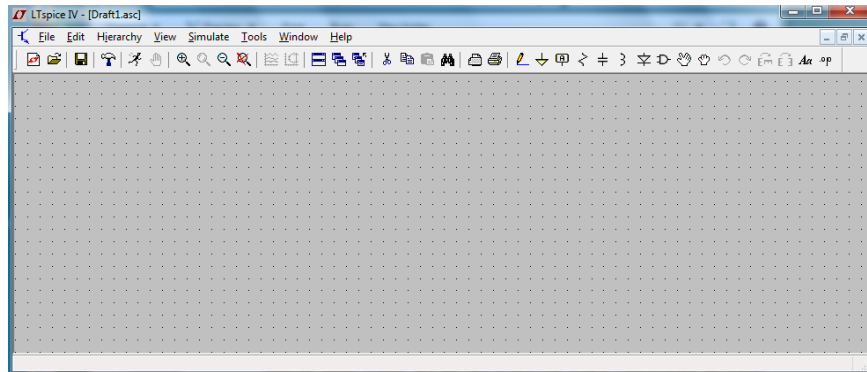

Figure 2
- 1) Open LTspice and select the “New Schematic” button in the upper-left corner of the screen  (or press ctrl+N). Press ctrl+G to make a grid appear/disappear. The grid is simply for a visual reference. Your screen should look figure 2.